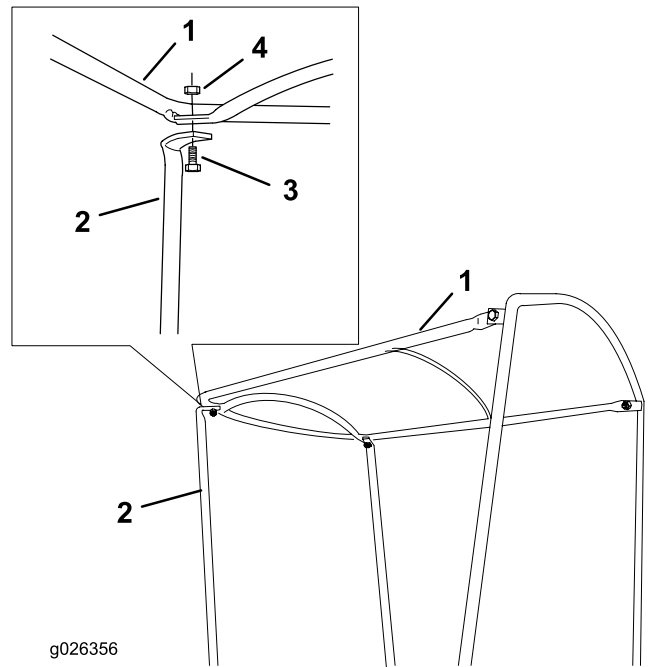

Figure 7
13. Attach the top frame to the front post using a bolt and a locknut (Figure 7).